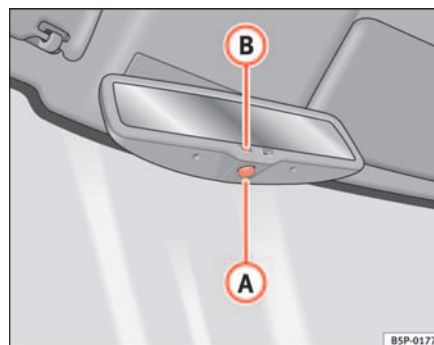

Fig. 90 Automatic anti-dazzle interior mirror.
- Press button (A) ⇒ fig. 90. Warning lamp (B) goes out:
- Press button (A) ⇒ fig. 90. Warning lamp is lit.